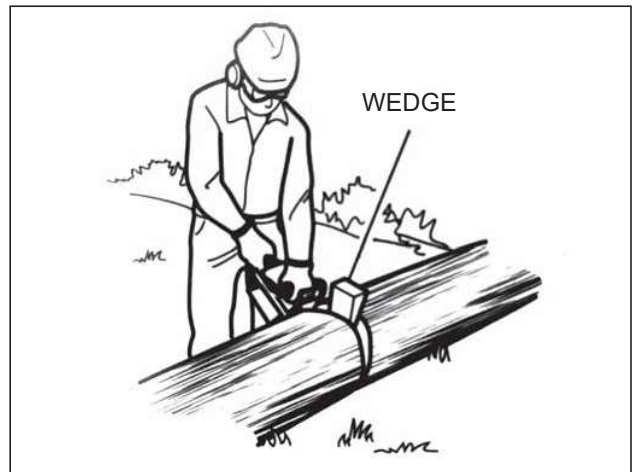

Fig. 30
- If the wood diameter is large enough for you to insert a soft bucking wedge without touching the chain, you should use the wedge to hold the cut open to prevent pinching(Fig.30).